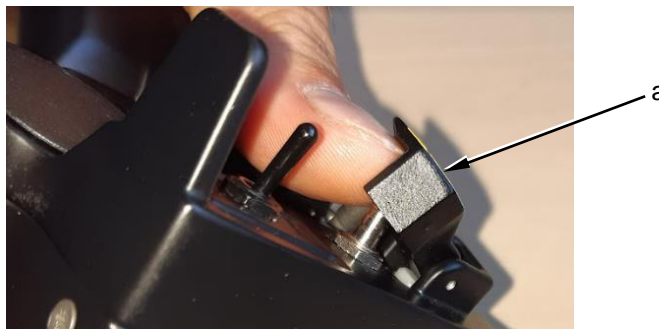

Figure 7 - Step2
- . Lift the safety-cap (a) with your thumb, refer to Figure 7.